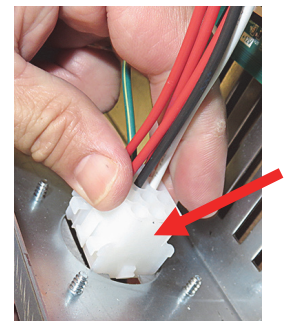

Figure 19
23. Insert the 12-pin female end into the opening in the bottom of the basket lift assembly box (see Figure 19).